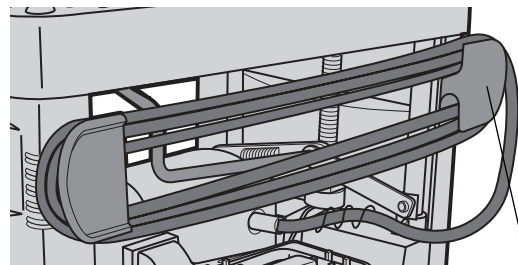

FIG. 4
To facilitate bench mounting, two different sized holes (E) are provided on the four corners of your planer as shown in Figure 4. If mounting the planer with bolts, use the larger holes. If mounting the planer with nails or screws, use the smaller holes. It is not necessary to use both sets of holes.